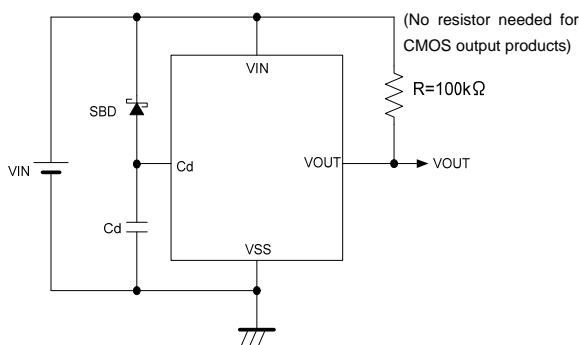

Figure 3: Circuit example with the delay capacitance pin (Cd) connected to a schottky barrier diode
5. When there is a possibility of which the input pin voltage falls rapidly (e.g.: 6.0V to 0V) at release operation with the delay capacitance pin (Cd) connected to a capacitor, use a schottky barrier diode connected between the VIN pin and the Cd pin as the Figure 3 shown below.